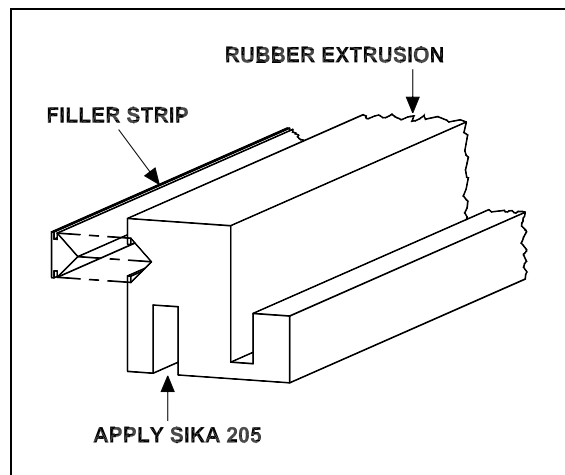

FIGURE 36: WINDSHIELD INSTALLATION
1. Clean the rubber extrusion channel (Fig. 36) with wiping towels soaked with isopropyl alcohol.